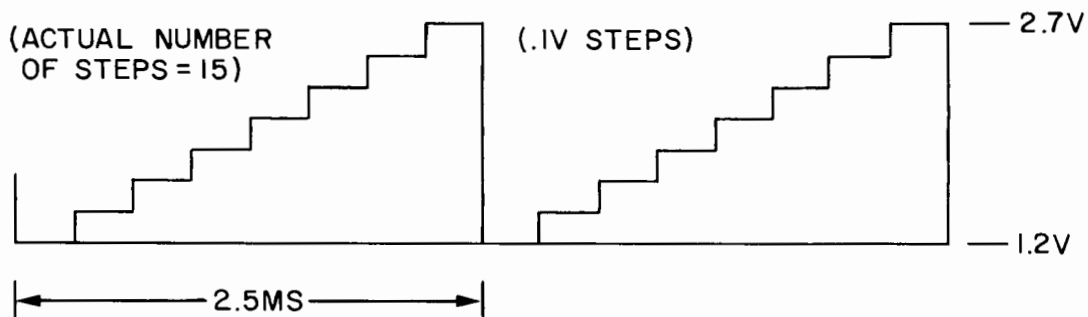

Figure 4-9. VP3 Waveform (1.2v - 2.8v)
- g. Adjust Channel A for 1v/DIV. The bottom part of the waveform should look like figure 4-9. NOTE: The waveform MUST also contain 15 steps and be linear.